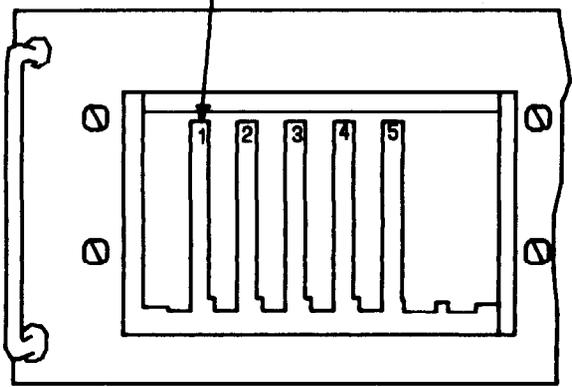

FIG. 1
- [5] SEE FIG. 1. REMOVE SIGNALING BOARD ACCESS COVER AND LOCATE AUXILIARY SIGNALING BOARD (NO. 1)